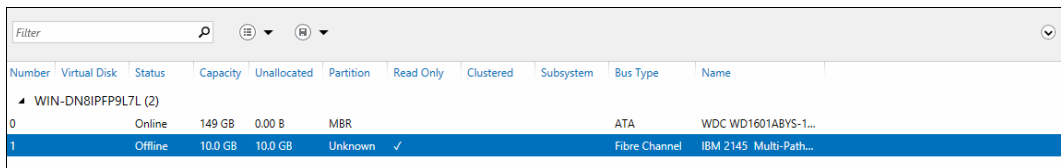

Figure 5-31 The mapped volumes listed in Windows 2012 R2
- The mapped volumes are now listed, as shown in Figure 5-31.